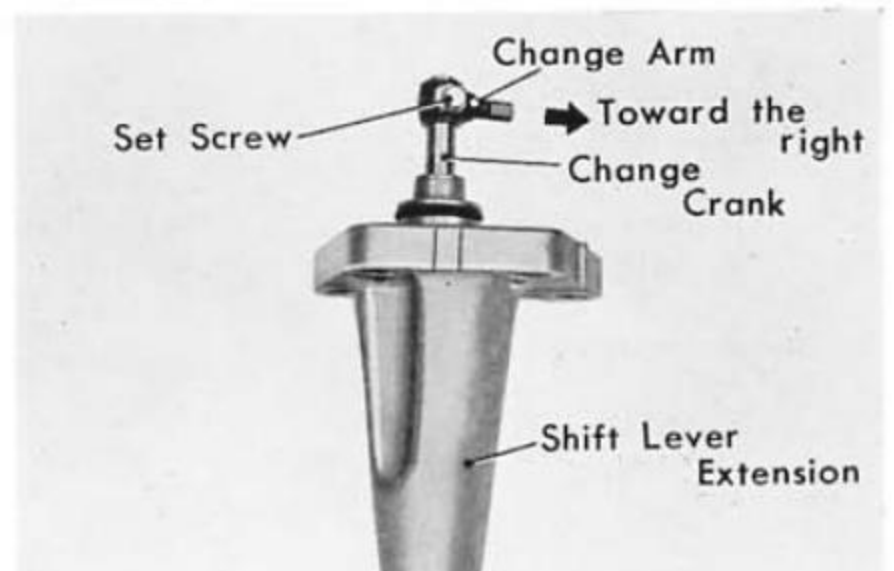

Fig. 6C-11
4. After assembling the guide plate and guide plate cover, install the shift lever holder (Fig. 6C-12). Apply grease to all friction surface.